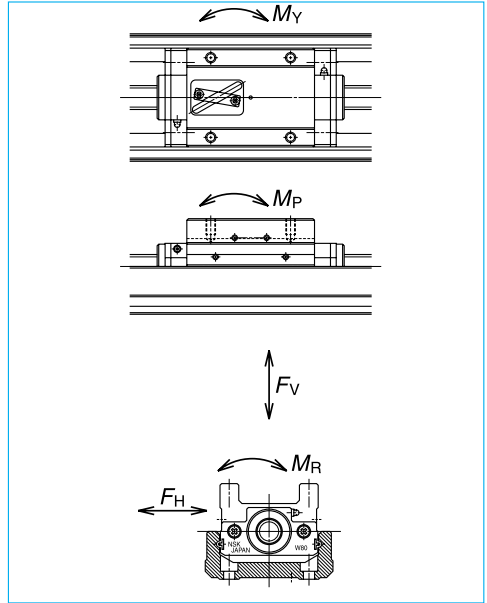

Fig. 1-10 Direction of load
Study the load to be applied to the linear guide of Monocarrier (Fig. 1-10). The equivalent load (F_e) is determined by substituting equation ① or ② depending on the number of sliders.